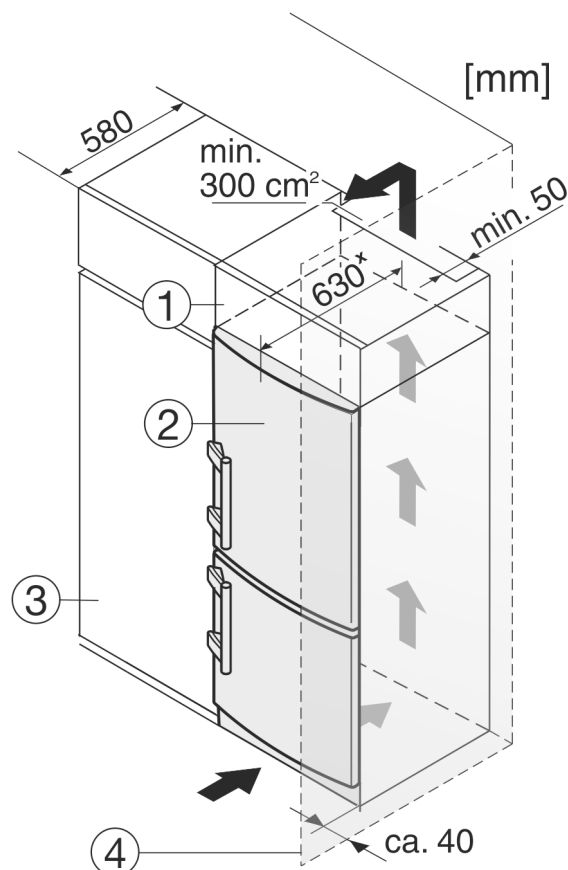

Fig. 9
The appliance can be built into kitchen units. A top cupboard Fig. 9 (2) can be added above the appliance in order to bring the appliance Fig. 9 (1) up to the height of the fitted kitchen units.
When fitting kitchen cupboards around the appliance (max. depth 580 mm), you can install the appliance directly next to the kitchen cupboard *Fig. 9 (3)*. The appliance protrudes 34 mm \* to the side and 50 mm \* in the centre of the appliance in relation to the kitchen cupboard front.
If the appliance is set up with the hinges next to a wall *Fig. 9 (4)*, the distance between the appliance and the wall must be at least 40 mm. This is how far the handle protrudes when the door is open.